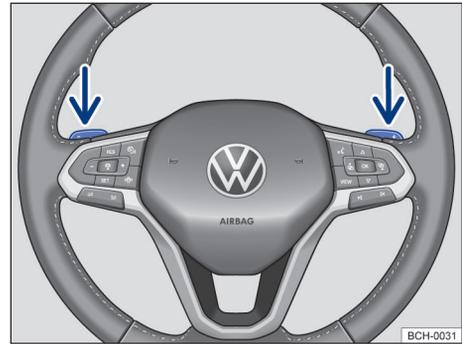

Fig. 98 Steering wheel with Tiptronic gear shift paddles.
- Pull the right steering wheel paddle lever → Fig. 98 to step up the gears.